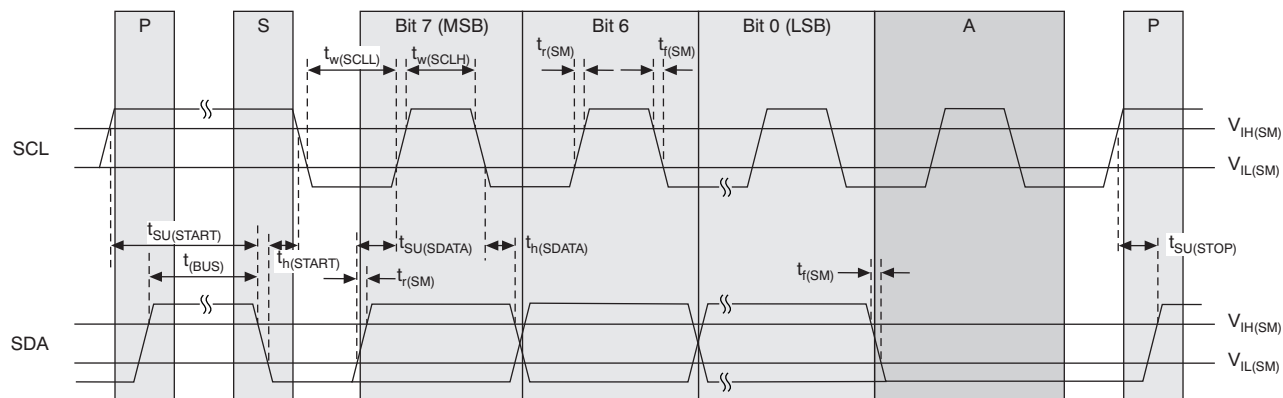

Figure 3. Timing Diagram for the SDA/SCL Serial Control Interface
(1) See Figure 3 for the timing behavior.